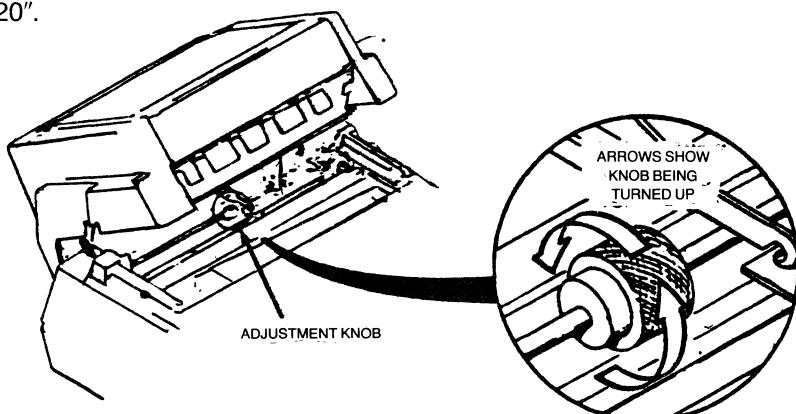

Figure C-10 Horizontal Adjustment Knob.
1. Tilt the feeder body back and locate the horizontal adjustment knob, shown in detail in Figure C-10.
3. Turn the knob UP (see Figure C-10) to move the feeder toward the RIGHT (control panel) side of the printer. Turn the knob DOWN to move the feeder toward the LEFT (forms lever) side of the printer.*